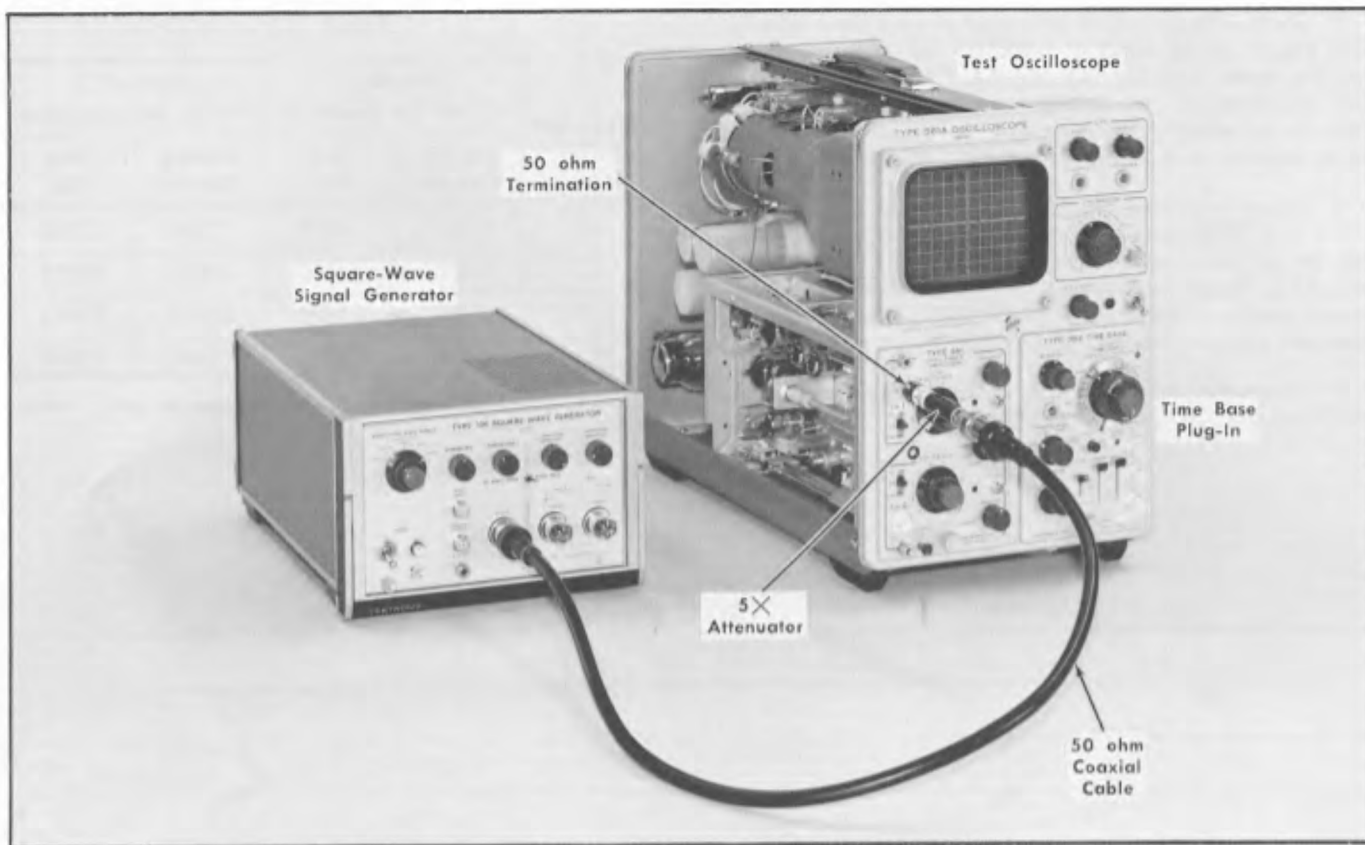

Fig. 7-18. Test equipment setup for step 15.
**15. Adjust High Frequency Compensation** ❶
a. Test equipment setup is shown in Fig. 7-18.